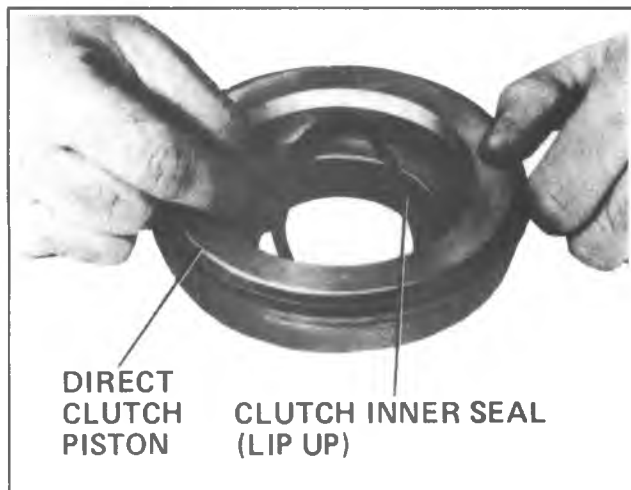

Fig. 7A-104A—Installing Direct Clutch Piston Inner Seal
5. Oil seals and install direct clutch piston (Fig. 7A-106A). To make the piston easier to install, insert tool between seal and housing; rotate tool around the housing to compress the lip of the seal, while pushing down slightly on the piston. See Fig. 7A-107A.